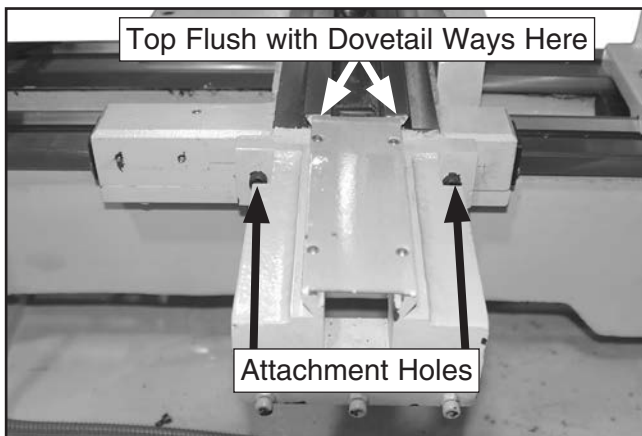

Figure 12. Taper attachment body properly aligned with saddle.
Note: The taper attachment body is properly aligned when the sides of the internal ways are evenly aligned with those of the saddle and the top cover is flush with or slightly lower than the saddle dovetail ways (see **Figure 12**).
17. Mount the attachment body to the saddle, as shown in **Figure 12**.